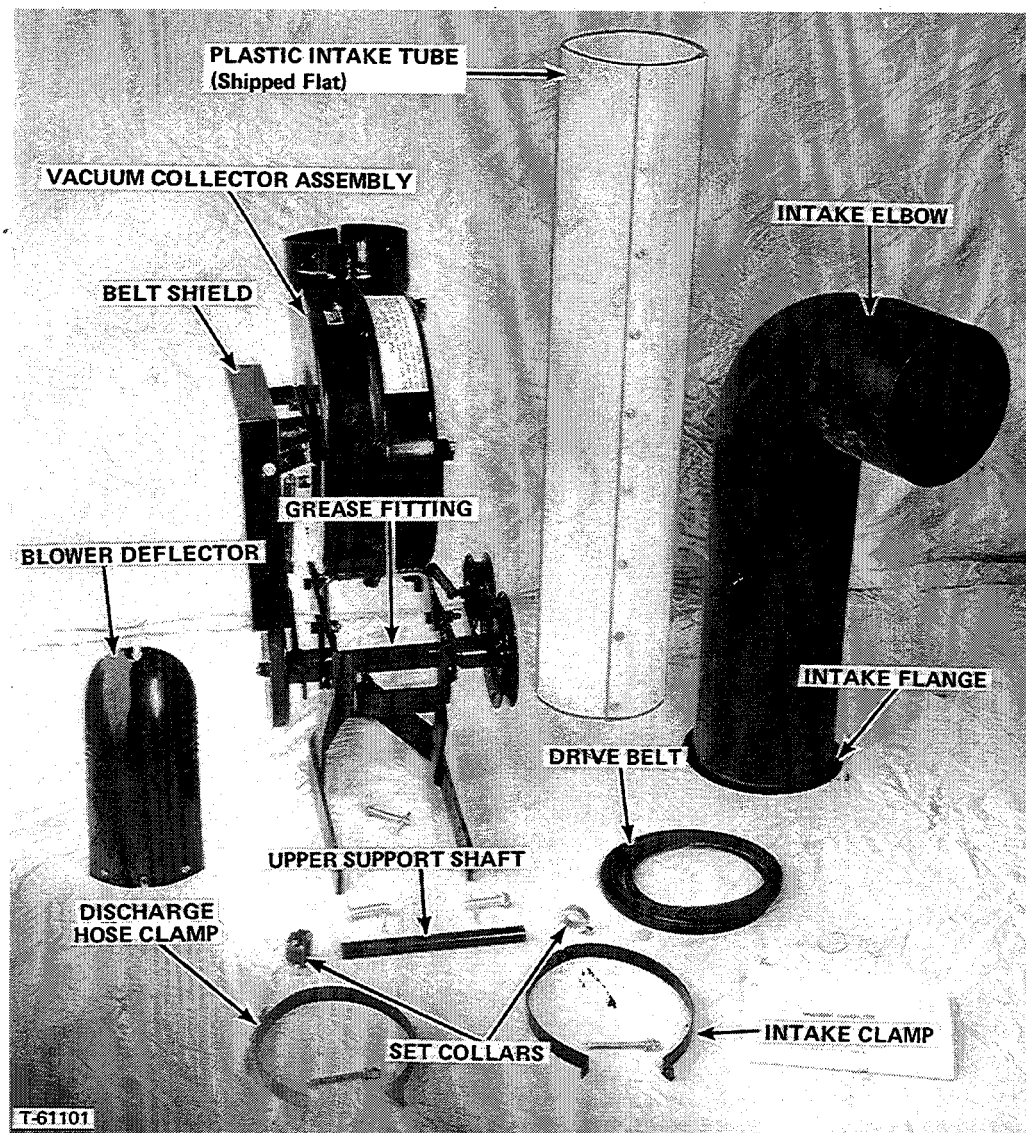

FIGURE 8
Figure 4 shows the blower belt drive with the belt shield removed. Be sure the drive belt and idler spring are installed as shown and that shield is installed as shown in Figure 8.
The vacuum collector is shipped approximately as shown in Figure 8 plus a separate box for the discharge hose (not shown). Proceed as follows:
5. Make sure that intake flange is fully inserted in the long end of intake elbow (Figure 8). Place intake clamp over elbow and flange and tighten securely.